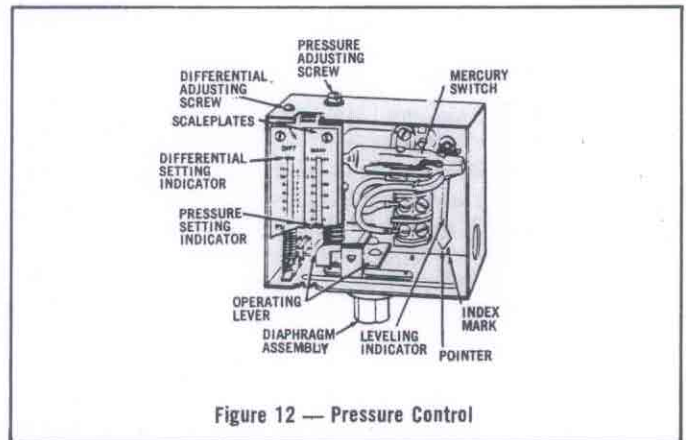

Figure 12 — Pressure Control
2. On all controls, the pressure adjusting screw on the top of the case sets the desired pressure. Turning the screw counterclockwise reduces the pressure setting (see Figure 12). High limit control should be set at 10 psig above the operating pressure of the boiler.